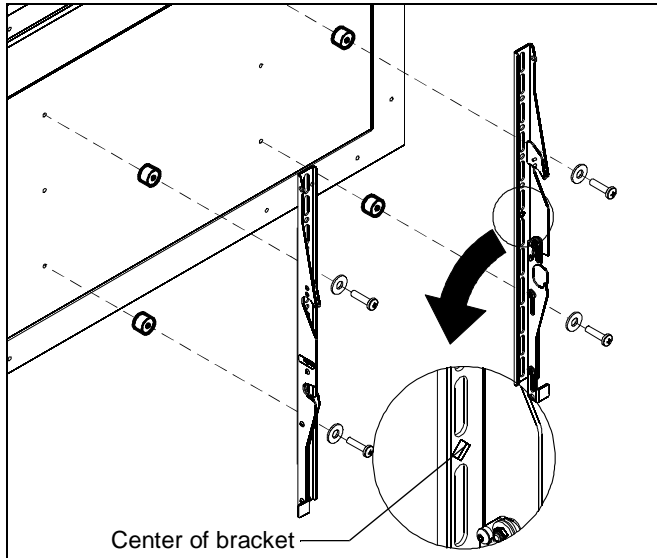

Figure 4
1. Align the center of the bracket with center of screen. (See Figure 4)
2. Select correct screws, spacers (if necessary) and washers from the hardware bag and attach brackets to back of screen. (See Figure 4)